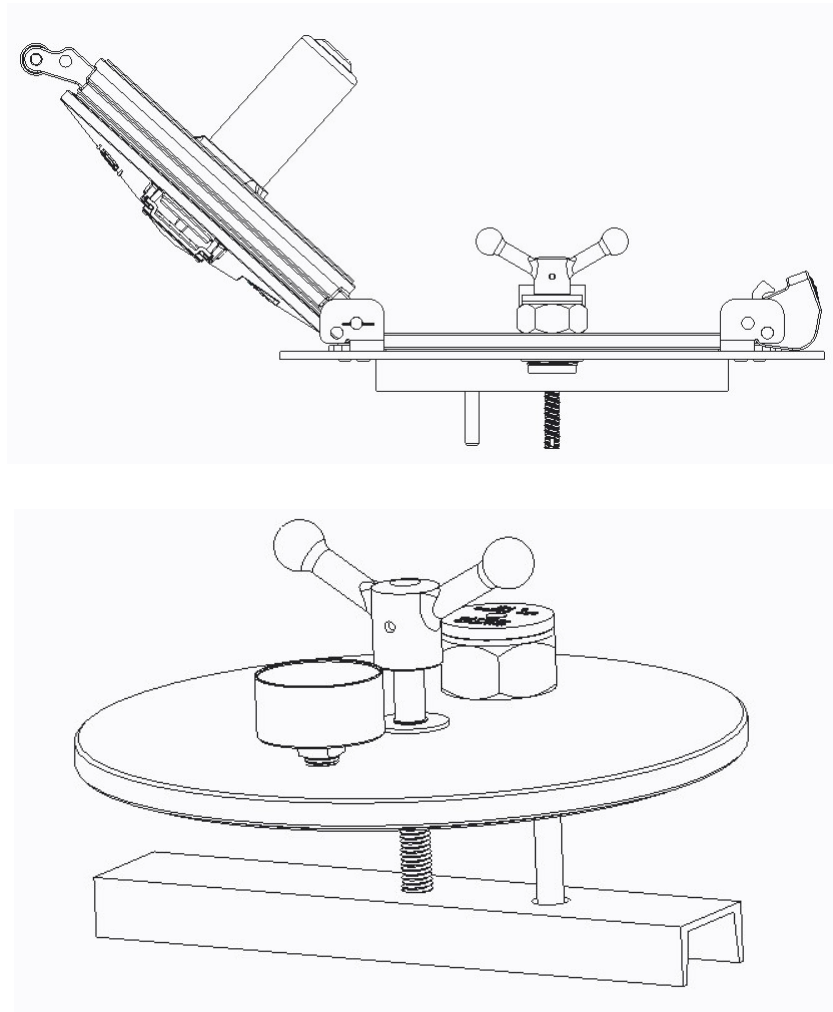

Figure 1
Pressure retest is covered by 49CFR180.407(g)(1)(ii)(A) and requires that all pressure relief devices be removed from the tank for inspection and bench testing to verify the relief device is operating correctly. The pressure retest and the relief device bench test must be performed at least every 5 years. Refer to FIG 1.
4.	Insert Civacon Retest Fixture (Part No. 13177) to seal the opening. See FIG 1.